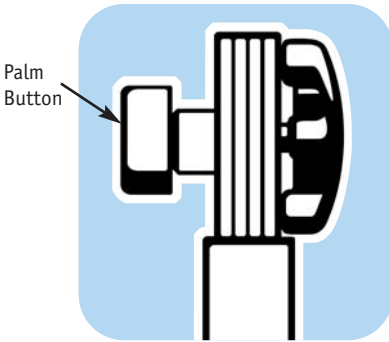
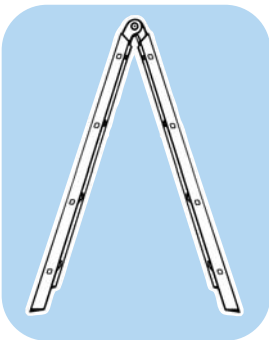

Figure A-4
Figure F-2
1. Unlock the hinge by pushing straight in on the Palm Button until it stays in the open position on both hinges (See Figures A-4 and A-5).
3. Now place the ladder into the extension position by again pushing straight in on the palm buttons of both hinges (See Figures A-4 and A-5).
1. Unlock both hinge locks (See figures A-4 & A-5).
indicated in figures A-4 & A-5) and rotate to extension position until both hinges lock into place.
2. Open the inner ladder assembly to the A-frame position until both hinges lock (See figures A-4 and A-5). This is the first of two trestles needed for the scaffolding function (see figure F-2).